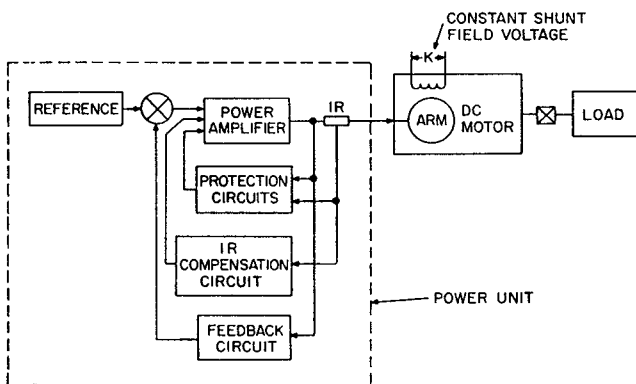

Figure 3-1. Block Diagram of 2% Speed Control Drive
Figure 3-1 shows the basic block diagram of the standard drive using armature voltage feedback with load (IR) compensation. This method of speed control does not monitor speed directly. Armature voltage is measured as an approximate measurement of speed. Since the speed of a dc shunt motor will decrease slightly when load is applied, a load (IR) compensation circuit is included to compensate for load speed change.